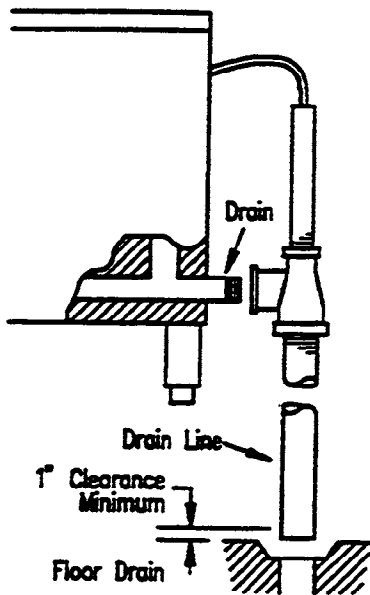

Figure 2-7. Drain Layout and Connections
Furnishing and installing the fittings and drain line is the responsibility of the owner and/or installer. Figure 2-7 illustrates a drain layout recommended by Cleveland Range. Observe the following instructions to determine the pipe size, the number of fittings required, and the layout of the drain line path.
7. The EconoCraft is supplied with the drain assembly attached to the unit (Figure 2-7). The overflow tube functions in free air venting and must extend upward from the tee.